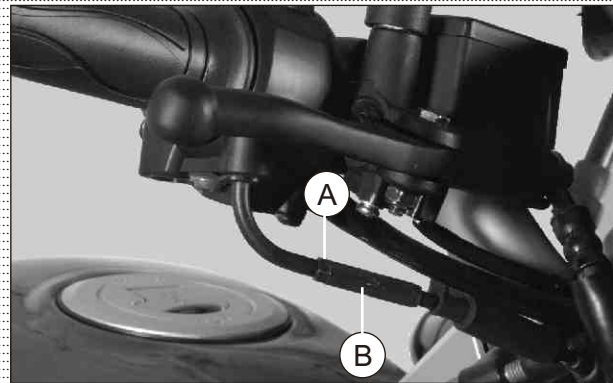

Fig. 2.58
- Loosen lock nut (A) and turn adjuster (B) 'in' or 'out' until the specified play is obtained. (Fig. 2.58)
- Tighten lock nut (A) while holding the adjuster (B) in place. (Fig. 2.58)